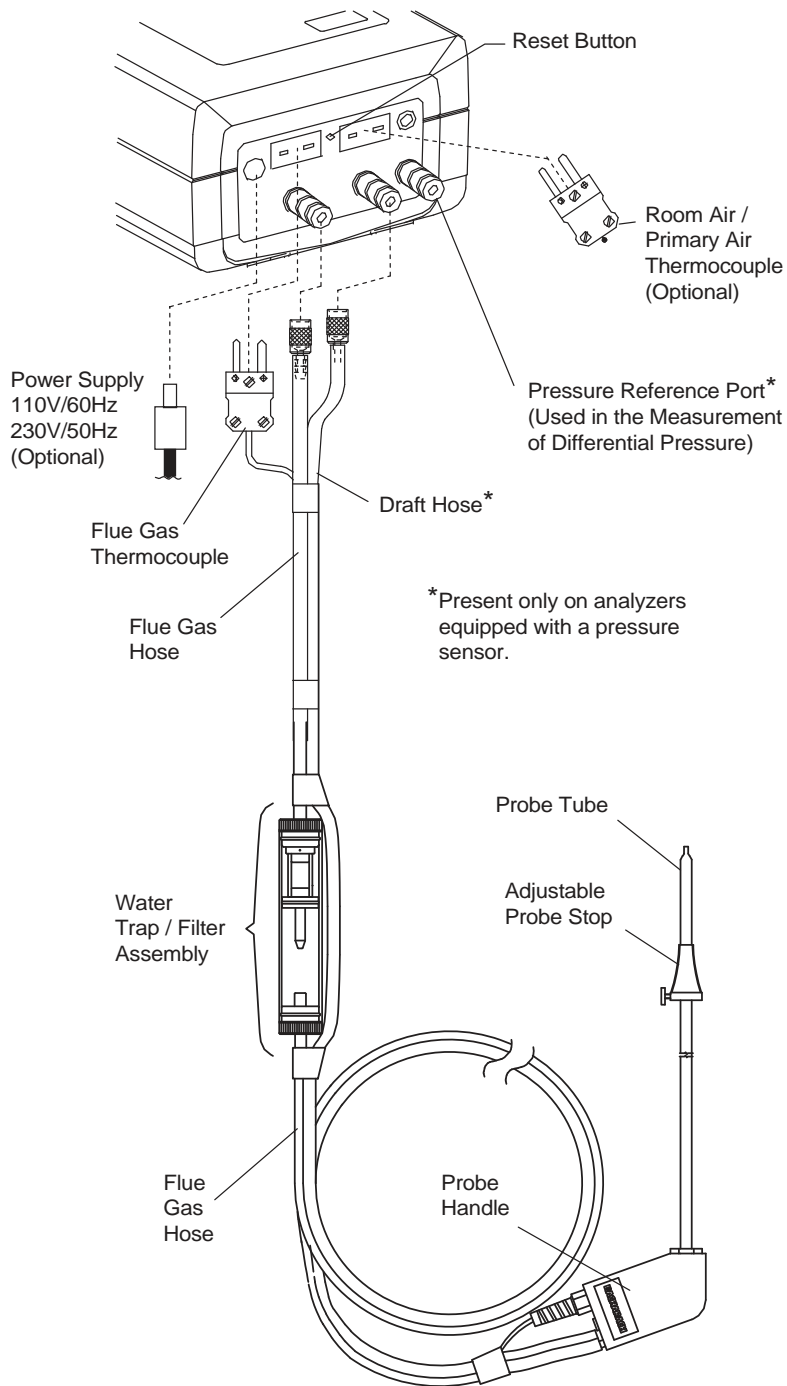

Figure 3-2. Connecting the Probe to the Analyzer
1. Connect the output plug of the Optional Power Supply to the analyzer's power supply jack (Figure 3-2).
To attach the probe to the analyzer (Figure 3-2):